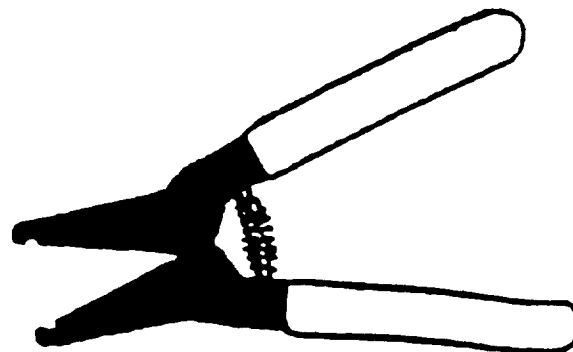
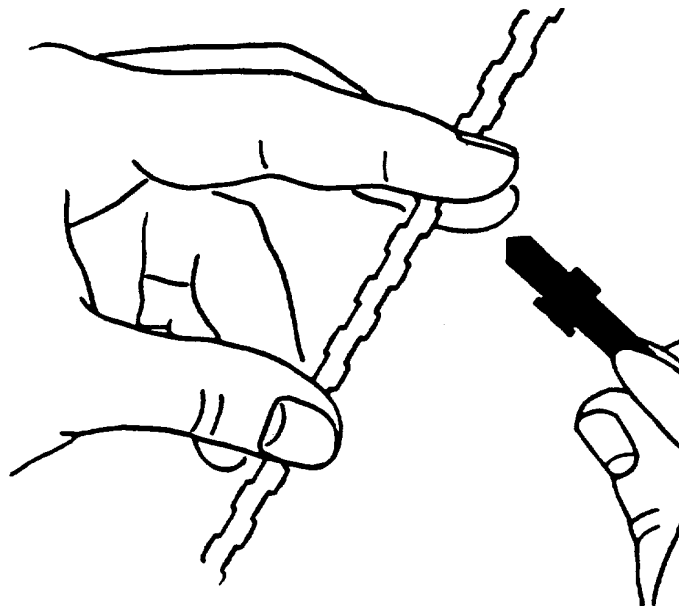

Figure 20. Bypass Shears
Figure 21. Gripping Grommet
e. Using a full bypass shears (part number MFE-100) shown in Figure 20, hold the grommet as shown in Figure 21.